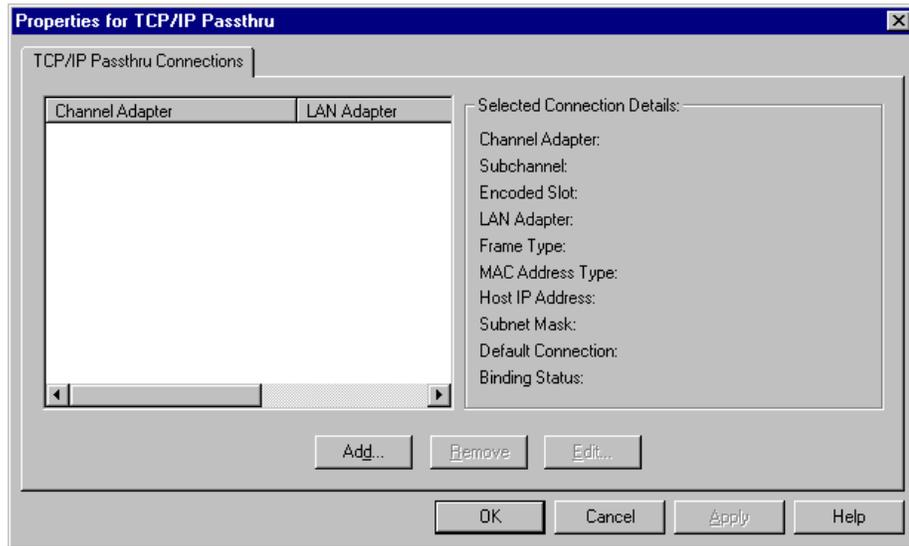

Figure 9-9. TCP/IP Passthrough Configuration
8. Click **Close** to end the installation. The system will begin updating the network bindings. Since TCP/IP Passthrough has not been configured the update will be paused for you to configure TCP/IP Passthrough. The TCP/IP Passthrough properties screen will display (Figure 9-9).